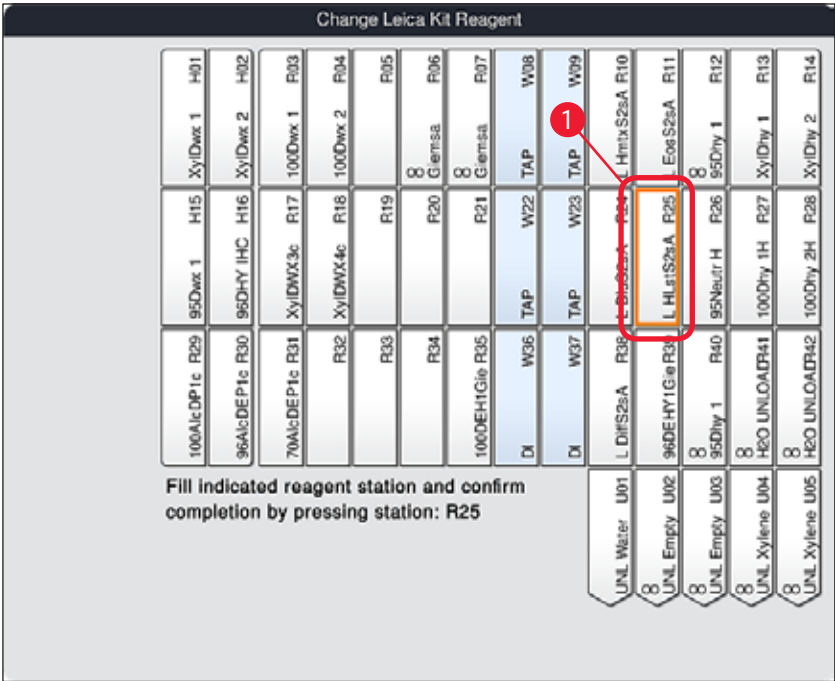

Fig. 59
3. In the new window **Change Leica kit reagent** (→ "Fig. 59"), the station to be filled is marked in orange (→ "Fig. 59-1").